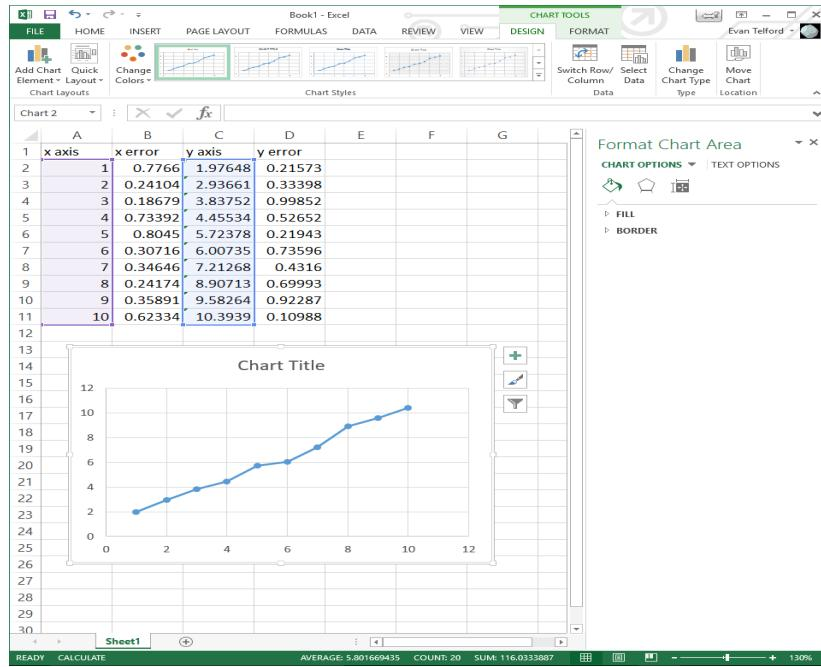

Figure 2: Selecting x and y data and creating a lined scatter plot in excel.
3. Choose the subheading "insert", then "Scatter", then "Scatter with straight lines and markers". Now your x and y data should be plotted without error bars (see figure 2).